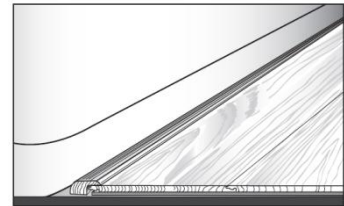

Fig. 23
7. Molding may be used along a straight tub or shower base **(Fig. 23)**. The expansion zone should be filled with 100% silicone caulk and the molding seated in the caulk while it is still wet. The joint between the molding and the tub or shower base should also be caulked. If molding is not an option, a normal 1/4" (6.35 mm) expansion zone may be used at the tub and then completely filled with 100% silicone caulk.